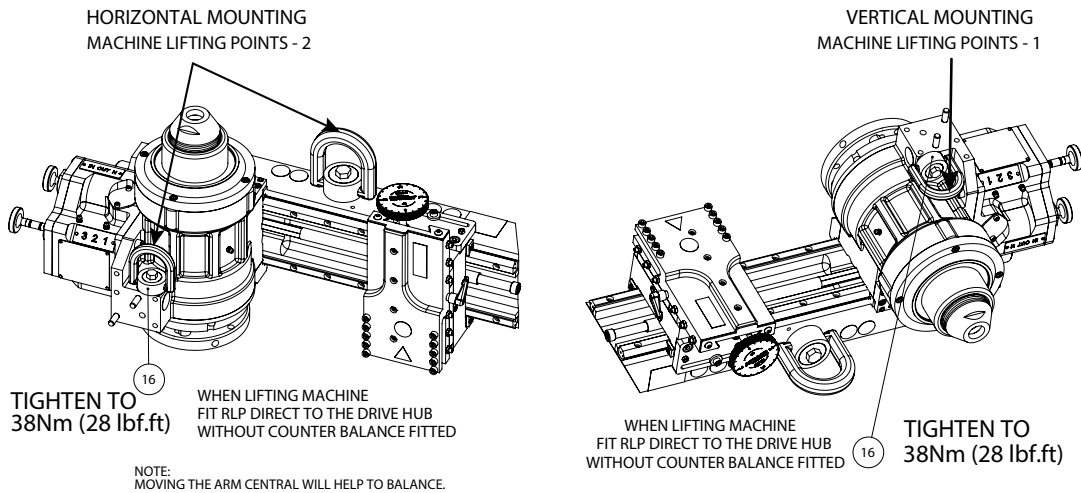

Figure 13: MM860i Lifting Points
1. Refer to Figure 13 for machine lifting points and torque values.